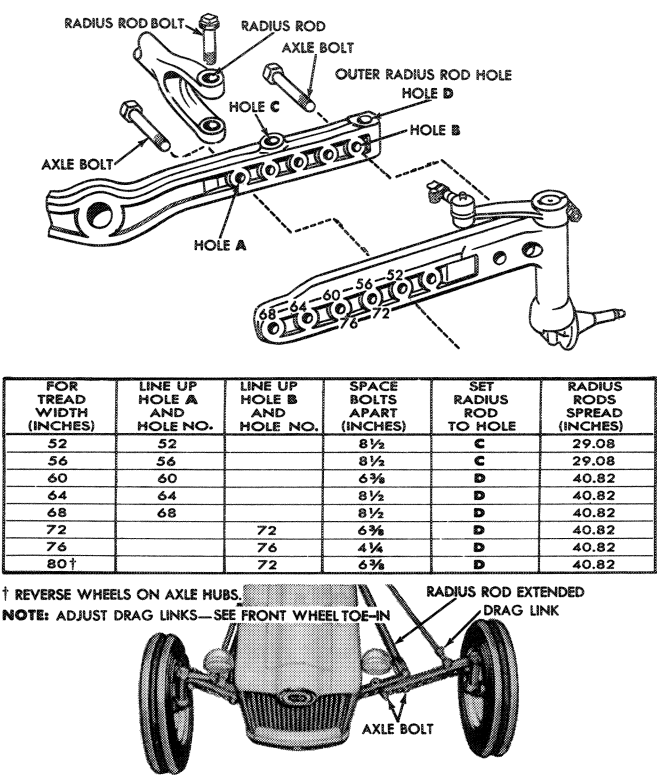

Figure 1—Front Wheel Tread Adjustments—General Purpose Tractors
- 1. Raise the front of the tractor until the wheels clear the ground. Remove the two bolts from one axle, Figures 1 and 2.
- 2. Position the axle at the desired tread width and install the two axle attaching bolts. Relocate the radius rod as necessary, Figure 1.